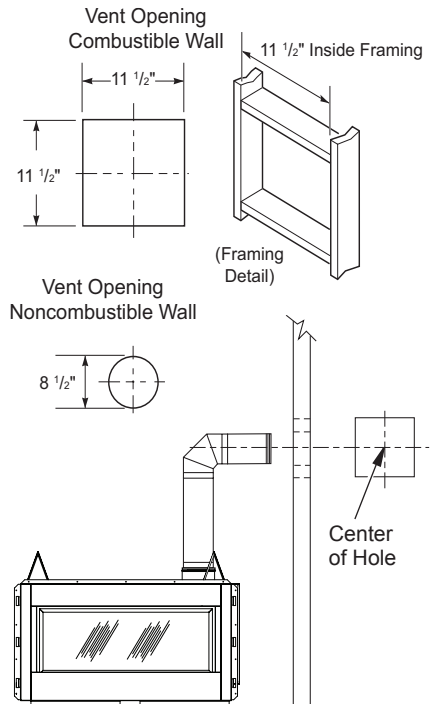
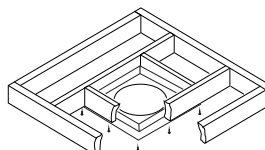

Figure 9 - Vent Opening Requirements
Figure 17 - Installing Firestop
etrated is constructed of noncombustible material, such as masonry block or concrete, a 8 1/2" hole with zero clearance is acceptable (see Figure 9).
1. Cut a 11 1/2" square hole in ceiling using locating hole as a center point. Opening should be framed to 11 1/2" x 11 1/2" inside dimensions, as shown in Figure 9 on page 12 using framing lumber the same size as ceiling joists. If area above ceiling is an insulated ceiling or an attic, nail firestop from top side. This prevents loose insulation from falling into required clearance space. If area above ceiling is a living space, install firestop below framed hole. Firestop should be installed with no less than three nails per side (see Figure 17).
- Cut a hole in the roof using locating hole as a center point. (Cover any exposed open vent pipes before cutting hole in roof.) The 11 1/2" x 11 1/2" hole must be measured on the horizontal; actual length may be larger depending on pitch of roof. There must be a 1" clearance from vent pipe to combustible materials. Frame opening as shown in Figure 9 page 12.
Figure 17 and 18, page 17 and 18, shows the configurations for vertical termination.